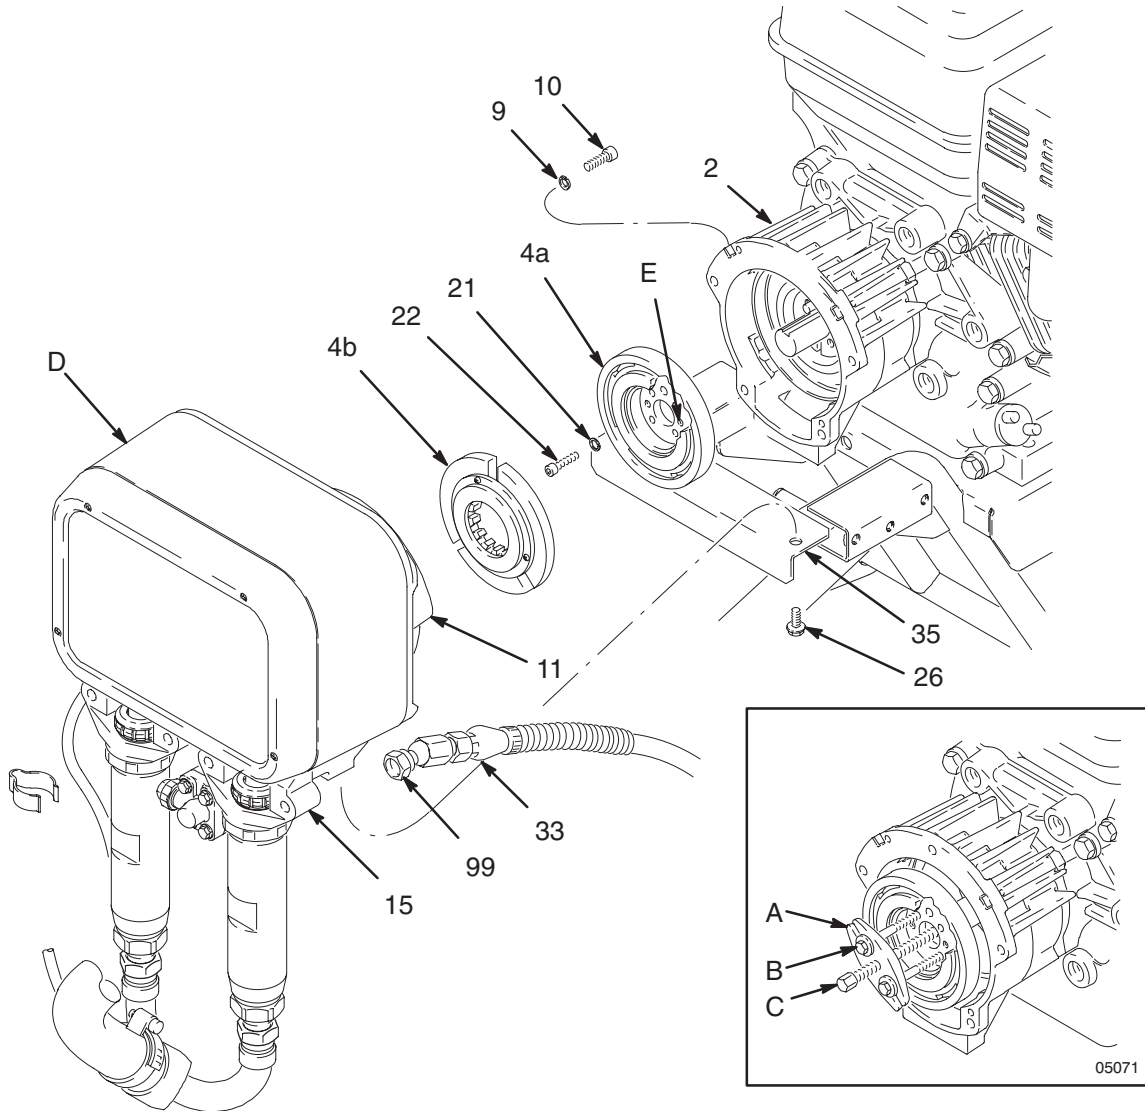

Fig. 14
**NOTE:** The clutch assembly (4) includes the armature (4b) and rotor (4a). The armature and rotor must be replaced together so they wear evenly.
**NOTE:** If the pinion assembly (11) is not yet separated from the clutch housing (2), follow Steps 1 to 4. Otherwise, start at Step 5.
**NOTE:** Refer to Fig. 14 for this procedure.
- a. Remove the four socket head capscrews (22) and lockwashers (21). Install two of the screws in the threaded holes (E) in the rotor. Alternately tighten the screws until the rotor comes off. See Fig. 14.
- b. You can use a standard steering wheel puller (A). However, two 1/4–28 x 3 or 4 in. long screws (B) are also needed. Replace the short screws of the steering wheel puller with the longer screws (B). Turn the screws (B) into the threaded holes (E) of the rotor (4b). Tighten the capscrew (C) of the tool until the rotor comes off. See the Detail in Fig. 14.